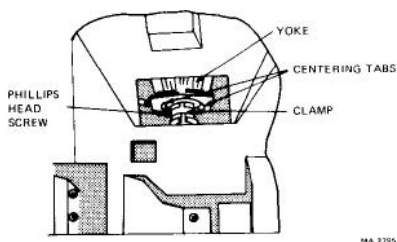

Figure 4-1 Yoke Alignment
4.1 CRT YOKE ALIGNMENT (Figure 4-1)